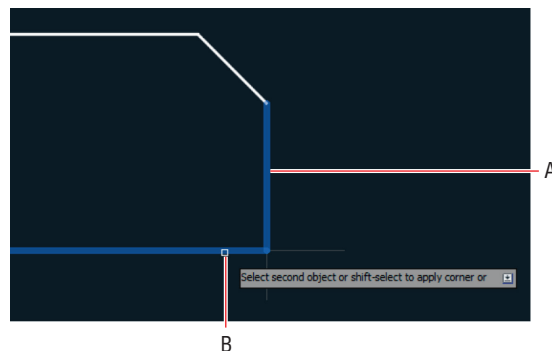

FIGURE 3.8 Filletting with a zero radius to form a corner
9. Type F (for Fillet) and press Enter. Verify that Radius is set to 0 in the Command window and then click the vertical and horizontal lines on the portions of the lines that you want to keep (marked A and B in Figure 3.8).